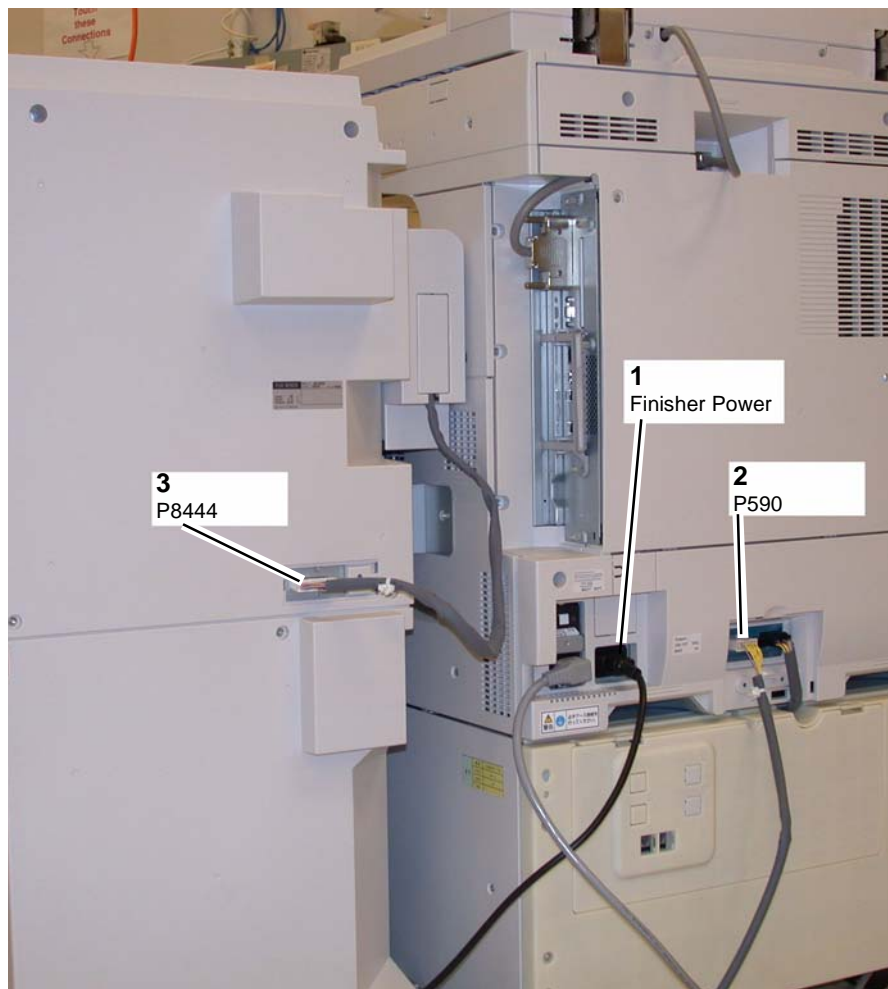

Figure 1 Disconnecting connectors
5. Disconnect the three connectors (Figure 1).